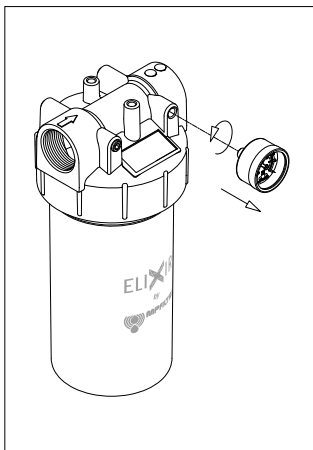

fig. 7
- (Fig. 7) Unscrew the indicator (or the plug) on the line IN (return) - the flow is indicated by an arrow on the head.